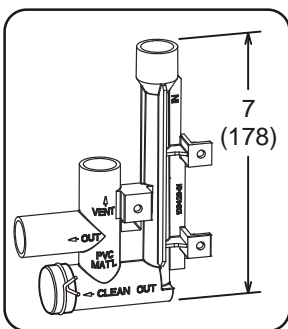

FIGURE 39
This unit is designed for either right- or left-side exit of condensate piping in upflow applications. In horizontal applications, the condensate trap must extend below the unit. An 8" service clearance is required for the condensate trap. Refer to figures 31 and 33 for condensate trap locations. Figure 39 shows trap assembly using 1/2" PVC or 3/4" PVC.
- 3 - Install the cap over the clean out opening at the base of the trap. Secure with clamp. See figure 39.
- 4 - Install drain trap using appropriate PVC fittings, glue all joints. Glue the provided drain trap as shown in figure 39. Route the condensate line to an open drain. Condensate line must maintain a 1/4" downward slope from the furnace to the drain.